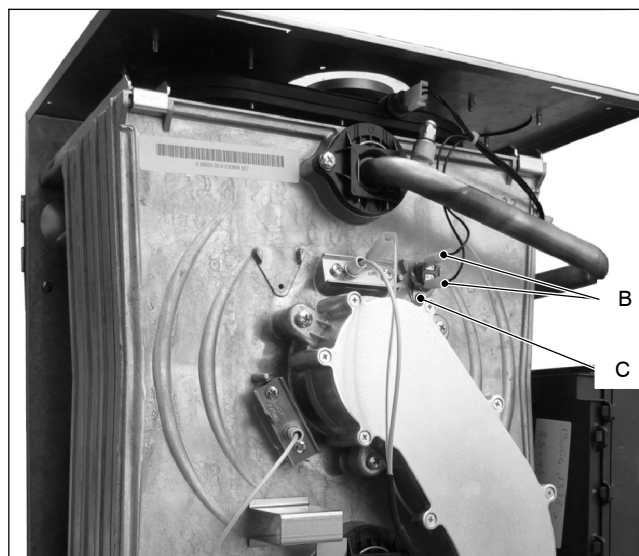

Fig. 12.2
- 2 Disconnect the wiring *B* (detail in Fig. 12.2).